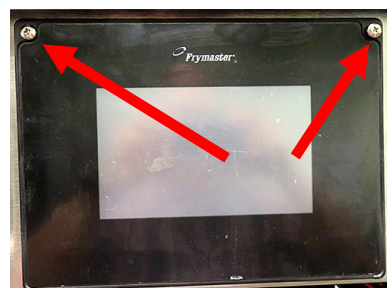

Figure 76
76. Reattach the controller to the bezel using the two (2) screws (see Figure 76).